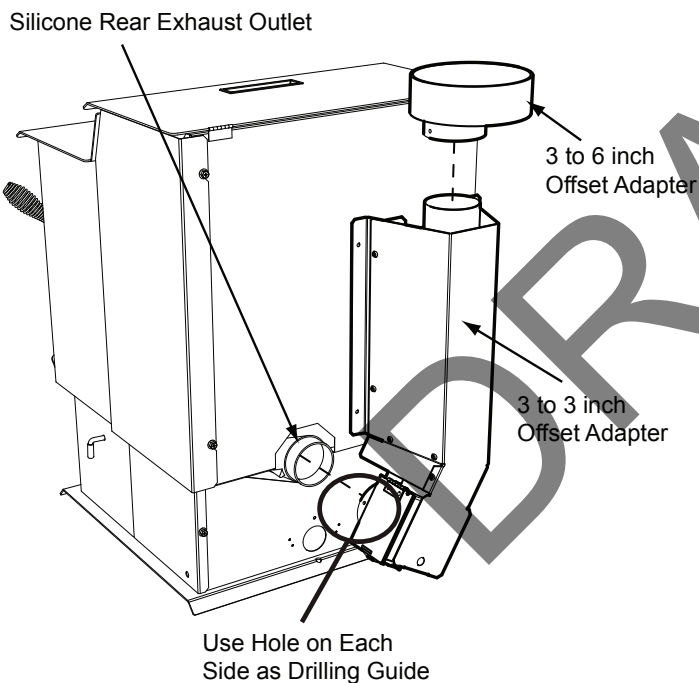

Figure 21.1
1. Put a layer of high temperature silicone on the 3 inch (76mm) exhaust outlet. Do not put silicone inside of pipe (**Figure 21.1**).
2. Slide the top vent adapter onto the rear exhaust outlet and adjust the assembly to a vertical position (**Figure 21.1**).
3. Drill 4 holes with #26 drill bit (provided) into the back of the appliance using the outer shield as a pattern (make sure the assembly is vertical) (**Figure 21.1**).
5. Drill 2 holes with #26 drill bit through the rear exhaust pipe in the top vent adapter as a guide. Install the 2 screws (**Figure 21.1**).
7. To clean the top vent adapter open the clean-out cover (**Figure 21.1**).